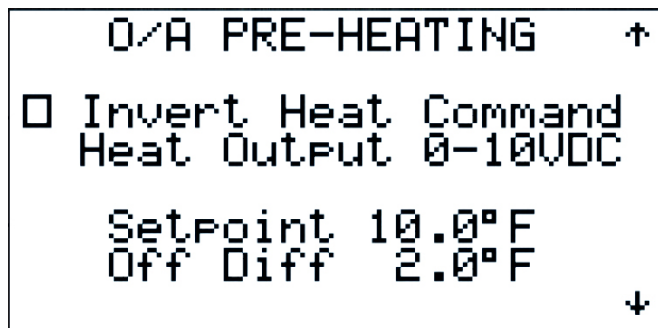

Figure 72
2.3.3.2.5. Tuning – Outdoor Air Pre-Heating (Figure 72 & 73)
Pressing the **DOWN** key will now display the settings of the Outdoor Air Pre-Heating settings. Figure 72 allows inverting the heat signal for water valve operation and varying the heat output from 0-10VDC to 2-10VDC, if desired. The setpoint and Off Differential are set here as well.